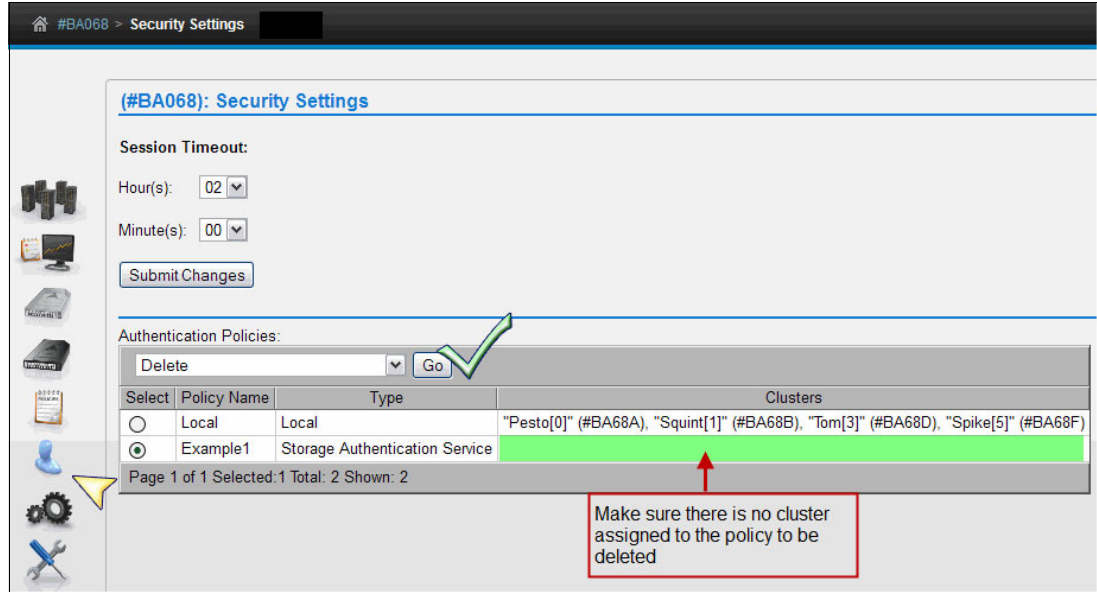

Figure 9-109 Delete a Storage Authentication Service Policy
The user can delete a Storage Authentication Service policy if it is not in effect on any cluster. The Local policy cannot be deleted. In the Authentication Policies table in Figure 9-109, no clusters are assigned to the policy, so it can be deleted. If clusters are assigned to the policy, use **Modify** from the **Select Action** menu to remove the assigned clusters.
2. In the Authentication Policies table, select **Delete** go to the **Select Action** menu as shown in Figure 9-109. From the Security Settings window, go to the Authentication Policies table and complete the following steps: